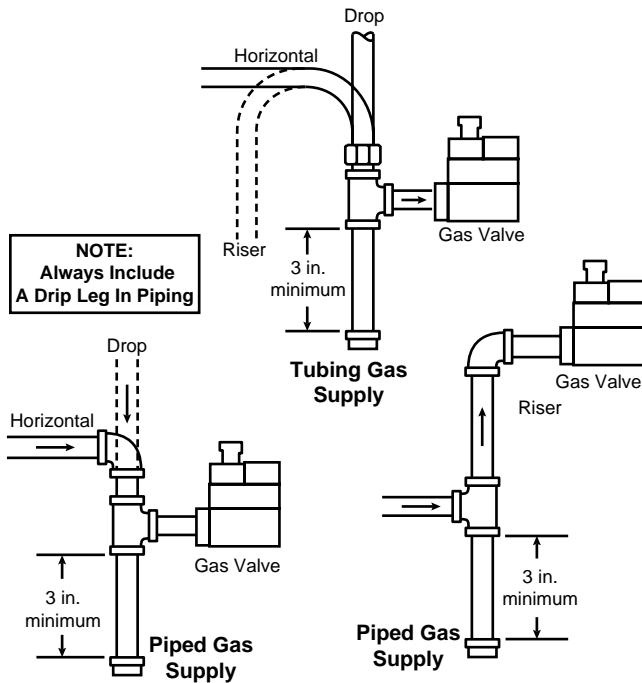

Figure 2. Typical gas valve piping
5. Apply pipe joint compound (pipe dope) or teflon tape that is approved for all gases, only to the male threads of the pipe joints. **DO NOT** apply compound or teflon tape to the first two threads (see fig. 2 for typical piping connections).